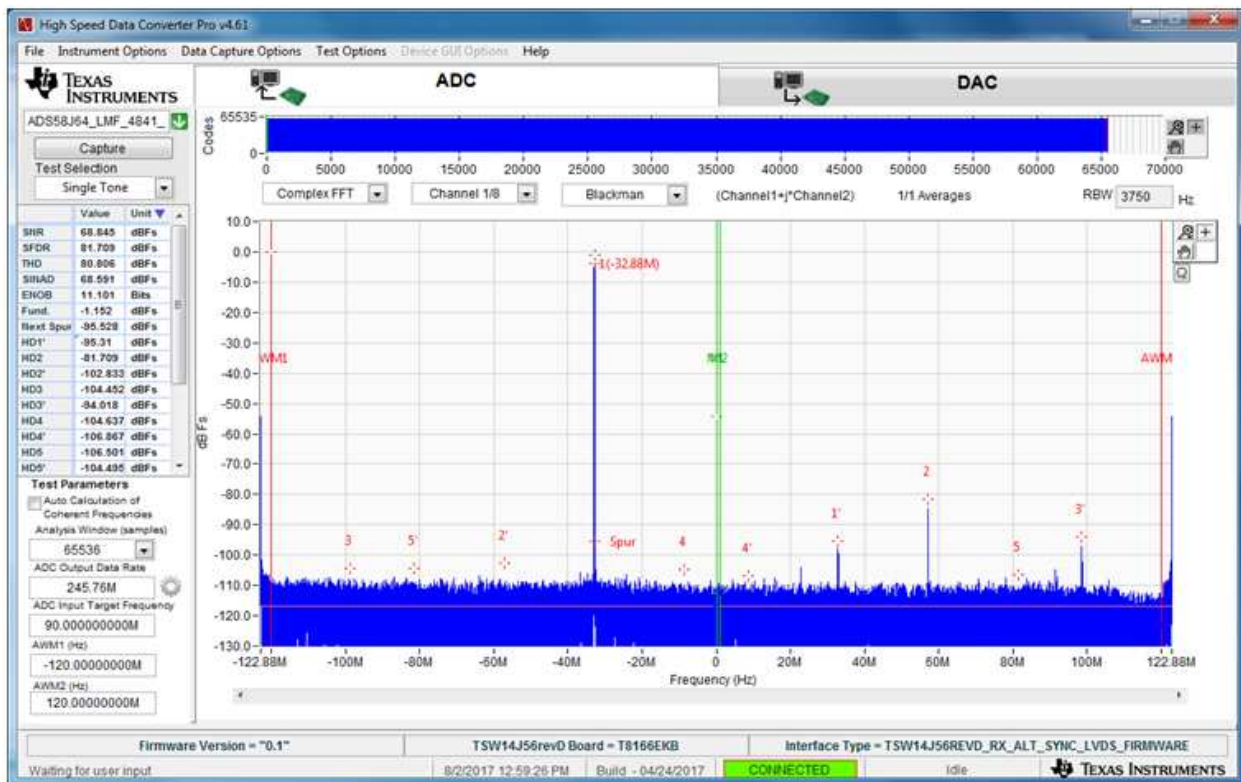

Figure 5. Data Capture Results From Quick Start Procedure
14. The results from the captured data of Channel = 1 should resemble Figure 5, and the performance should be similar to Table 1. If this result was not achieved, then see Section 2.4 of this document.